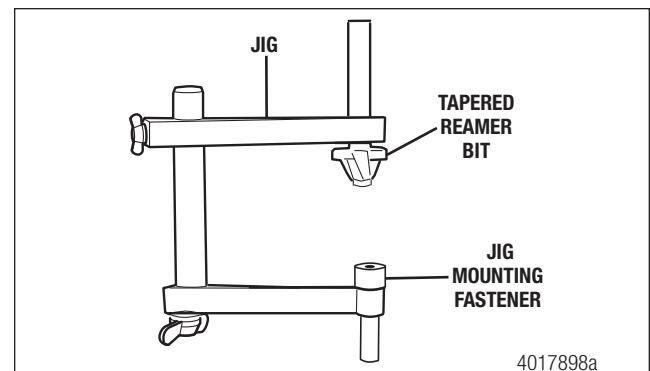
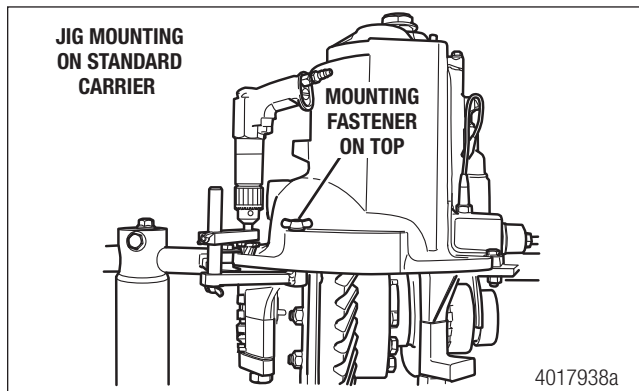

Figure 6
Figure 7
3. Slide the tapered reamer bit into the jig hole. Attach the jig to the adjacent bolt hole. Figure 6 and Figure 7.